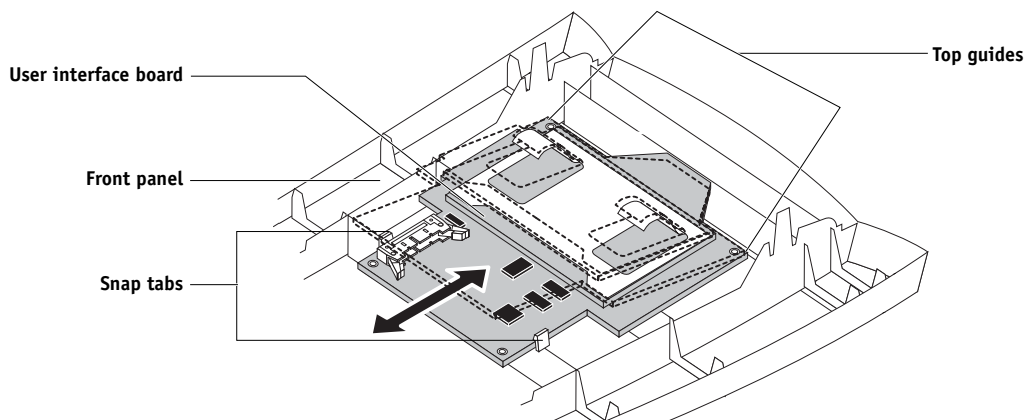

FIGURE 4-15 Removing/replacing the user interface board
5. Lift up slightly on the bottom edge of the board and slide the board out from under the top guides on the front panel (see Figure 4-15).
1. **Position the user interface board in the front panel at an angle so that the top edge of the board fits under the top guides (see Figure 4-15).**